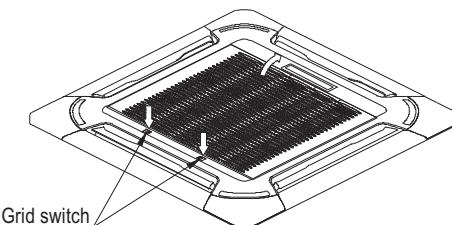

Fig.1-7
- Slide two grill switches toward the middle at the same time, and then pull them up.(Refer to Fig.1-7)